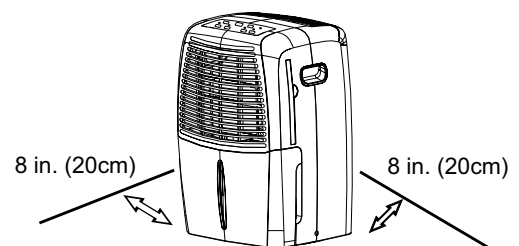

Fig. 2
- Allow at least 8 in. (20cm) of air space on all sides of the unit for good air circulation (see Fig.2).